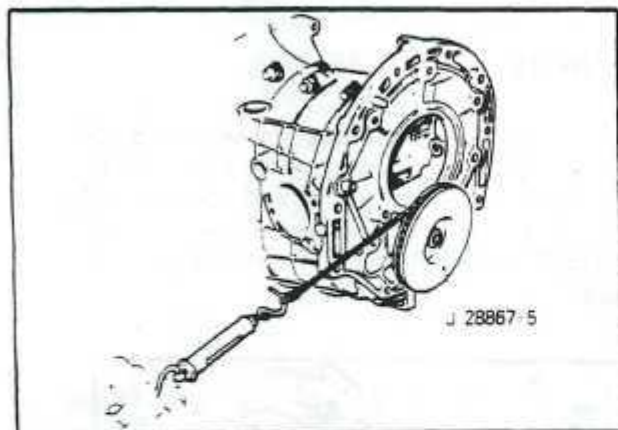

Fig. 80 PINION BEARING PRE-LOAD
- d. Remove the pinion lock tool and attach the measuring tool (part of the A. T Tool Kit) to the pinion nut. Fig. 80